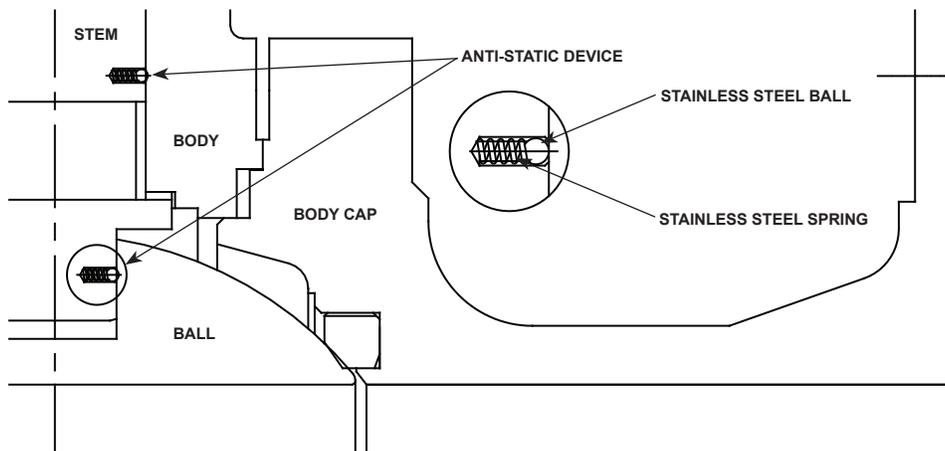

Figure 6. Anti-static Device Setup
2. Place anti-static spring (key 18) and anti-static steel ball (key 17) into the stem (key 4) at their corresponding location. Refer to Figure 6 for the proper setup of the anti-static device which includes the anti-static spring and the anti-static ball. Insert thrust washer (key 7), bearing (key 8) and O-ring (key 19) onto the valve stem (key 4) and install valve stem to the body (key 1) from the inside or using the largest opening of the body (key 1). Position the stem (key 4) with the lower flat head below and should be parallel with the flow passage.
3. Rotate ball (key 3) to the fully closed position or ball flow holes positioned sideways and against the flow passage and place the ball into the body (key 1). Make sure that the flat head portion of stem (key 4) slides through the slotted portion of the ball and is firmly connected.
4. Connect body cap (key 2) to the valve body (key 1) and screw bolt (key 15) into the valve body (key 1) through the flange hole in the body cap (key 2). Screw nut (key 16) into the other end of the bolt to compress body cap and body tightly.
5. Insert packing (key 9) and gland flange (key 10) onto the valve stem (key 4) and make sure it is properly fitted into the body (key 1). Screw in stud (key 11) to hold the packing, gland flange and valve stem together then tighten.
6. Place stopper (key 12) on top of the gland flange (key 10) then use a special tool to splay one snap ring (key 13) and place it on the lower slot of the upper flat head of the stem to lock the stopper in its position.